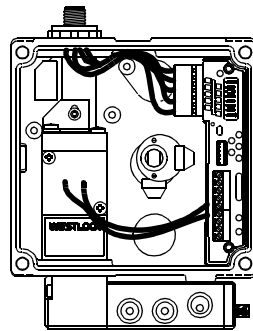

Figure 1
1. The Wiring options for 7244 & 7279ME or XE are shown in Fig. 1 and 2 below. The proper wiring diagram for your unit is shown on the inside of the 7279ME or XE covers.
(See Fig. 1 above). Examples are shown below.